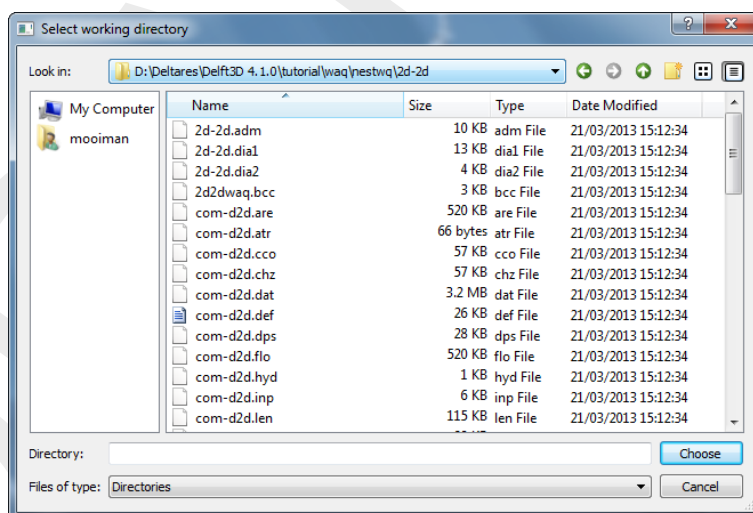

Figure 3.5: Select working directory window to set the working directory to <waq\nestwq\2d-2d>
- ◇ Enter the <2d-2d> sub-directory and close the **Select working directory** window by clicking **OK**, see Figure 3.5.